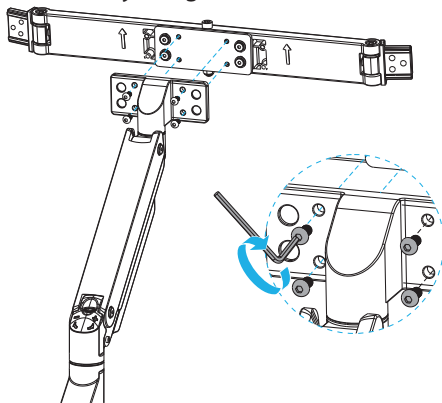

Figure 14
1. Insert the **Button Head Hex Screws** (x 4) through the **Screw Holes** on the **Spring Arm** and into the **Crossbar, Center** ensuring the correct orientation of the **Crossbar, Center**. Use the **4mm Hex Key** to tighten the **Screws** (x 4). (Figure 14)
3. Insert the appropriate length and diameter **Screws** (x 4) through the **Washers** (x 4), **VESA Monitor Mount**, and into the back of the **Monitor**. (Figure 14)